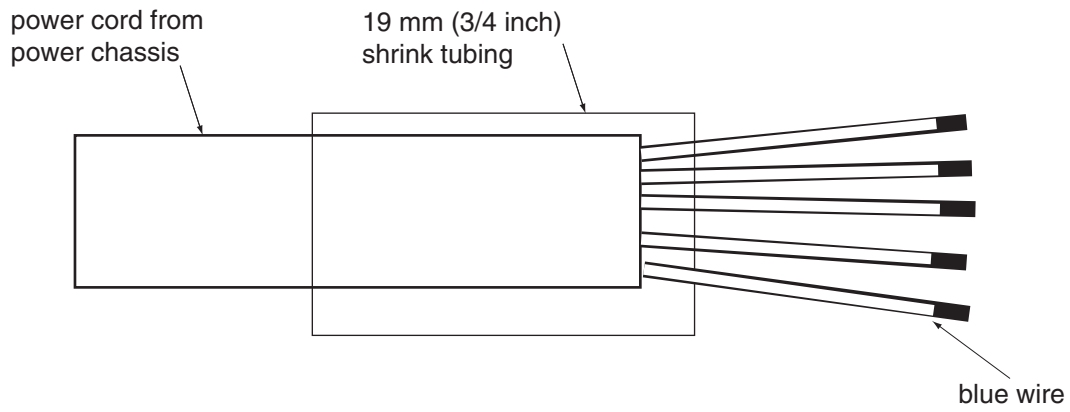

Figure 6-4. Removing Insulation from Blue Wire in Power Cord (380-415 VAC)
5. This procedure requires a user-supplied 19 mm (3/4-inch) diameter piece of shrink tubing. Place the shrink tubing over the end of the power cord. Use a heat gun to apply the shrink tubing (see Figure 6-4 on page 54).